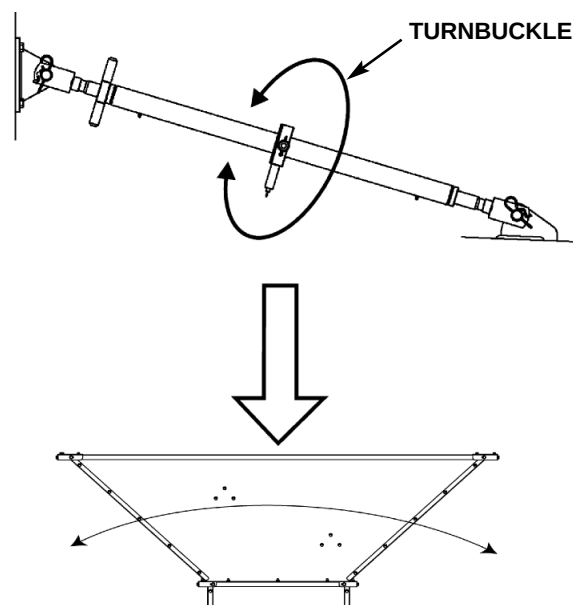

Figure 16 - Bagging machine leveled by means of the turnbuckle
9) Using the adjustment ratchet, level the machine taking as an approximate reference the upper rim of the grain receiving hopper as shown in Figure 16. If it were necessary to change the turnbuckle rotation direction, turn the lock latch 180°. This way, the correct tray-ground clearance is achieved and the tray is horizontal.